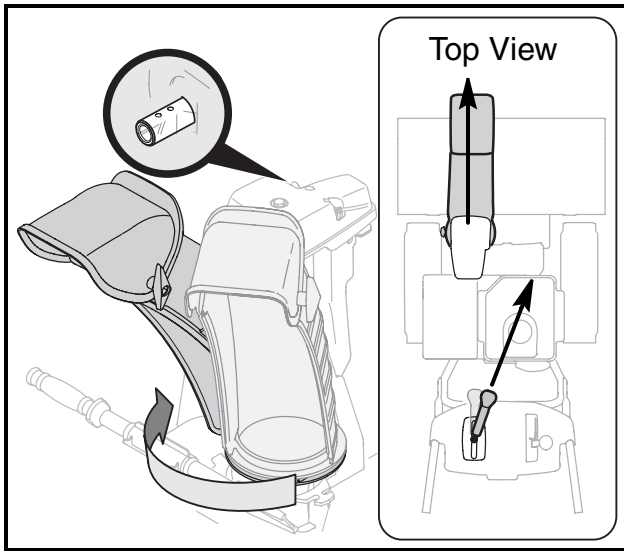

FIGURE 19
33. Squeeze the trigger on the joystick and rotate the chute by hand to face forward. The holes in the chute rotation gearbox coupler will be facing up. See Figure 19.